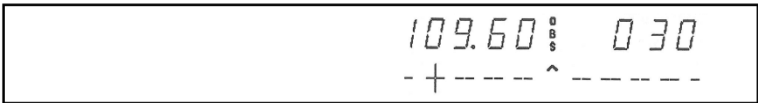

Figure 7-3. Active VOR Frequency/CDI Format
- b. “OBS” flashes on the display while the knob is pulled out. The CDI is displayed on the line below the frequency/OBS (Figure 7-3).